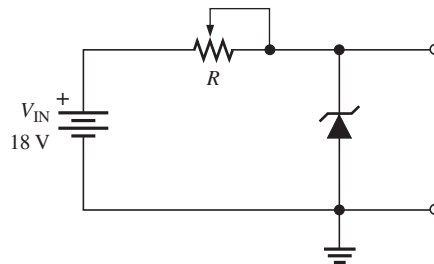

FIGURE 2-79
16. To what value must R be adjusted in Figure 2-79 to make $I_Z = 40$ mA? Assume that $V_Z = 12$ V at 30 mA and $Z_Z = 30 \Omega$.